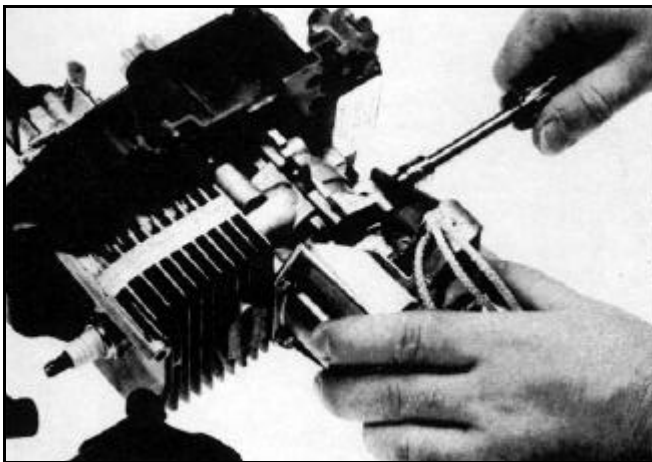

Figure 224 0406-041
4. Remove the recoil starter assembly. Check the condition of the starter rope. If the rope is worn, replace it with #4 Diamond Braid Rope (Figure 224).